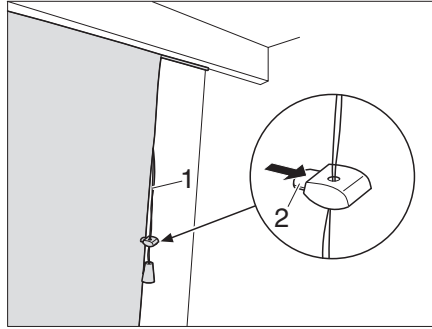

Fig. 83 Gathered blind
- Pull down the cord (Fig. 83,1). The cords pull up and gather the blind.
- Press the clamp (Fig. 83,2) on the holder and slide the holder into the required position.
- Press the clamp (Fig. 83,2) on the holder.